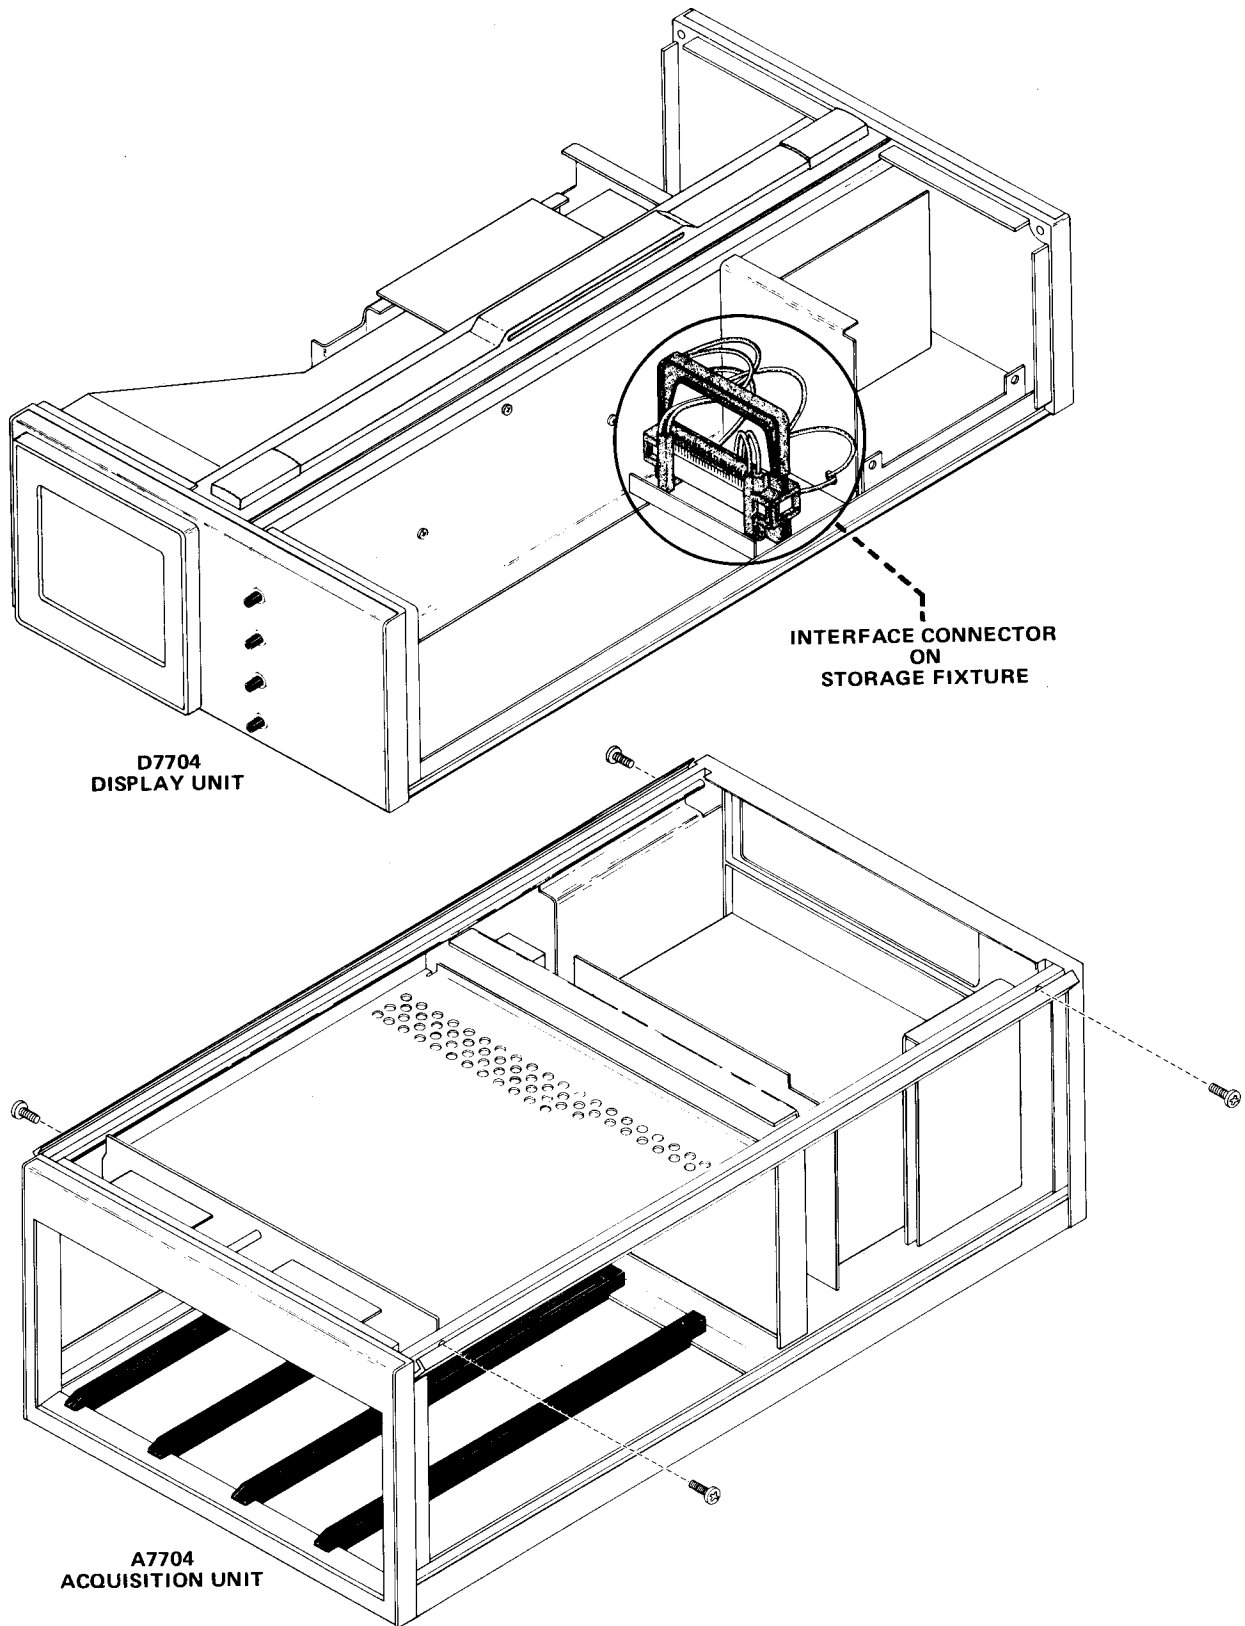

Fig. 3-7. Disassembly and assembly of Display and Acquisition units.
**Disassembly of Acquisition and Display Units.** The (A7704) Acquisition and (D7704) Display units can be disassembled to gain access to the front-panel controls. To disassemble the two units, first disconnect the instrument from the power source. Remove the side panels as described previously. Unplug the Interface Connector (located on the right side of 7704A; see Fig. 3-7) and place it on the storage fixture. Remove the two screws which attach the units on each side (see Fig. 3-7). The two units can now be separated. To assemble the units, reverse the disassembly procedure.